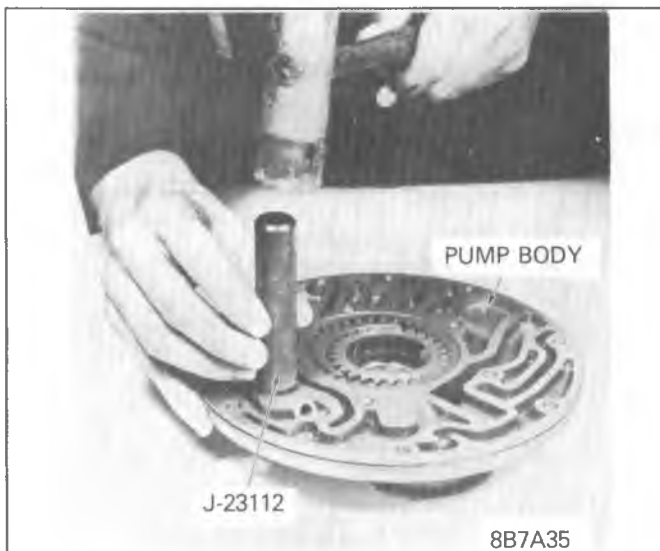

Figure 350C-74 Installing Cooler By-Pass
6. Install spring retainer and install five (5) attaching bolts, finger tight. See Figures 350C-66 and 350C-65.